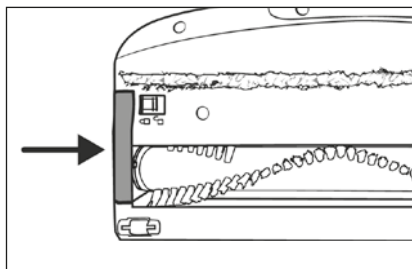

Fig. 27
- 6) Put the rotary brush holder 19 back into the floor brush 21. Push it down until it audibly clicks into the floor brush 21 (see Fig. 27).